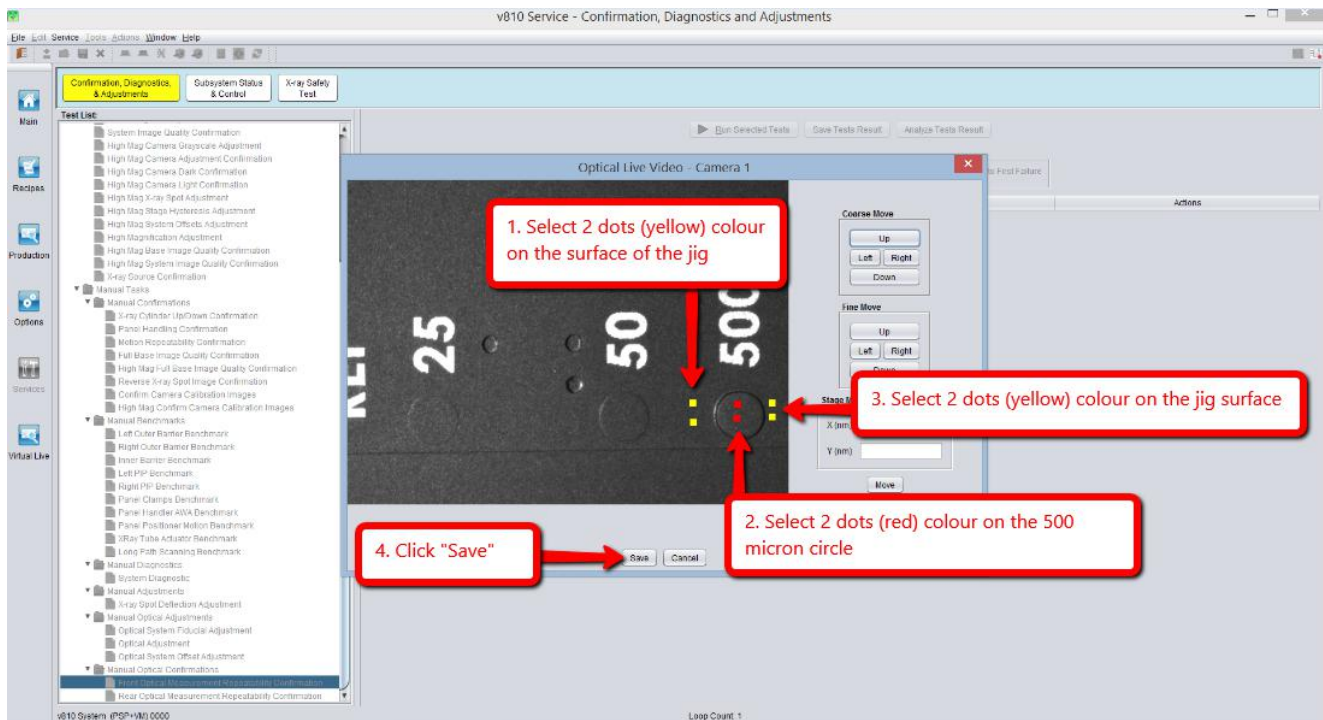

Figure 39 Adjustment Points
27. Select the points of the adjustment dot as shown in the Figure 39 before proceed with the Step 28.